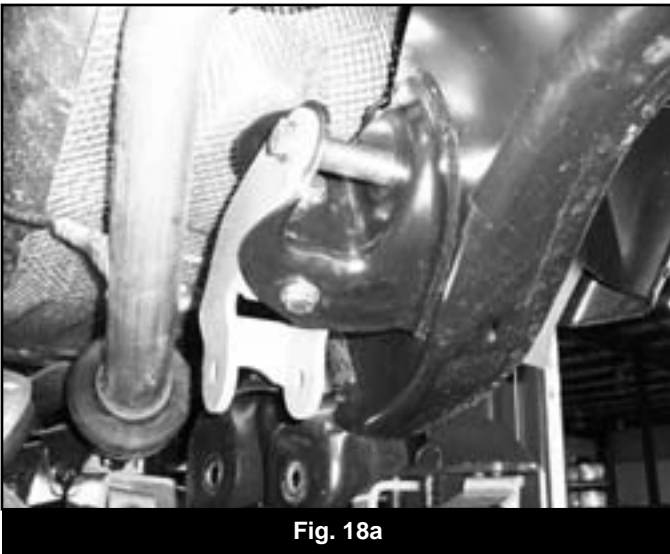

Fig. 18a
42. Position a provided crush sleeve (92) in the OE UCA mount (Fig 18a & 18b) and fasten the bracket through the OE UCA mount holes and sleeve with a 12mm x 100mm bolt, nut and 1/2" SAE washers. Run the bolt from the outside.
45. Repeat the UCA bracket installation on the driver's side of the vehicle. The drivers bracket will have clearance for the catalytic converter on late model 09's and new vehicles. It will still install just the same on 07- 09 models. On the driver's side it is not necessary to install the arm in the bracket before installing the bracket to the frame until after the bracket bolts are tightened. (Fig 18a / 18b)